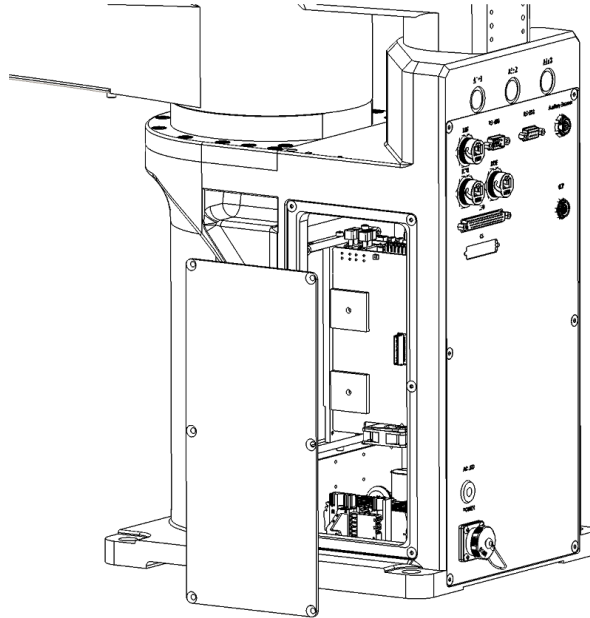

Figure 4-5 Take out the side door of the base
**Step 2** Take out the side door of the base, as shown in Figure 4-5.